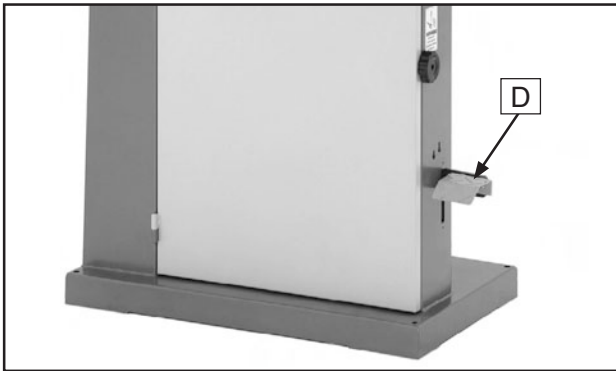

Figure 51. Foot brake (G0514X2/G0514X3).
- E. Foot Brake (Figure 51, G0514X2/G0514X3):** Cuts power to motor and allows bandsaw blade to be quickly brought to a stop.